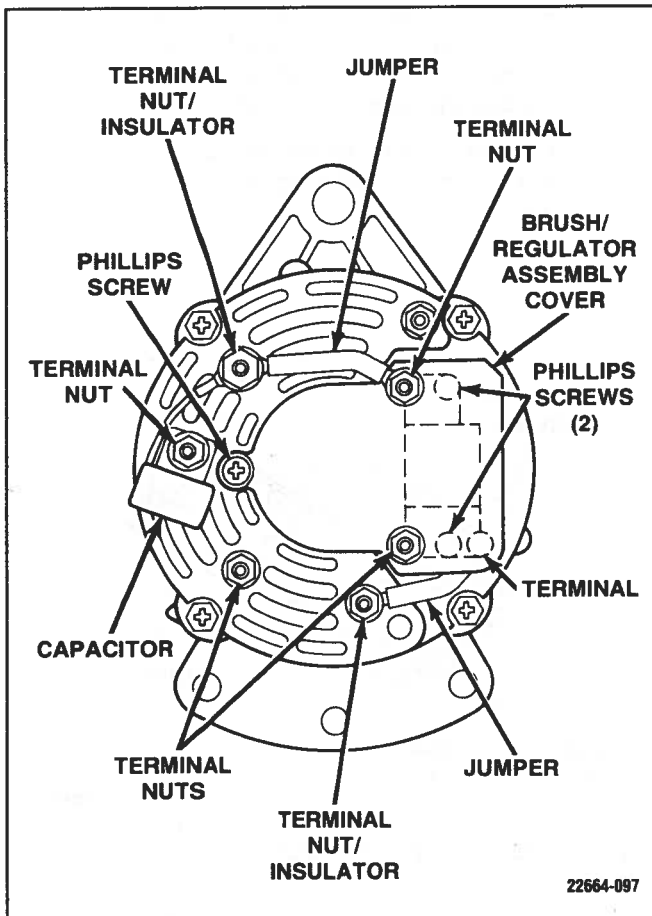

Figure 6-123. Alternator Disassembly
1. Remove terminal nuts to remove jumper. (Figure 6-123)